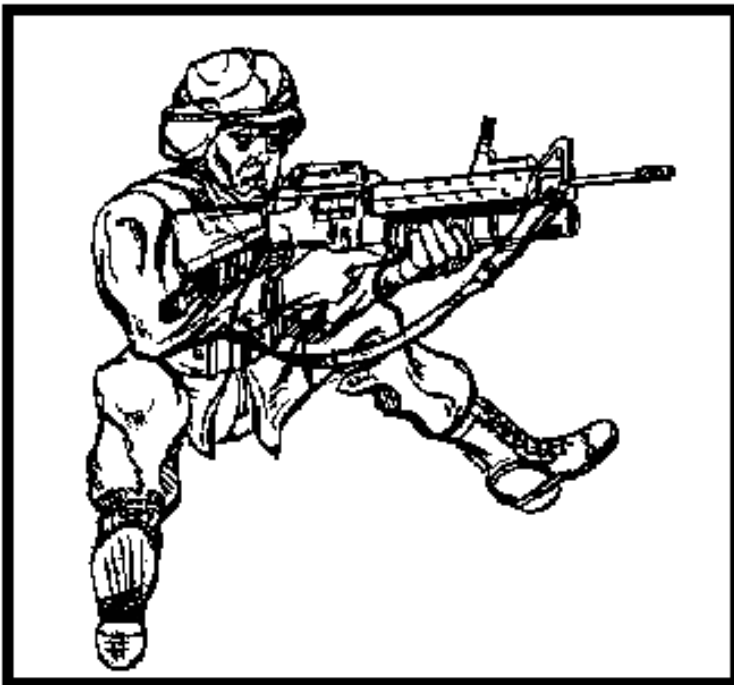

Figure 5-3. Sitting position (open-legged).
(3) ***Sitting position, open-legged.*** Figure 5-3 shows the open-legged sitting position. To assume this position--